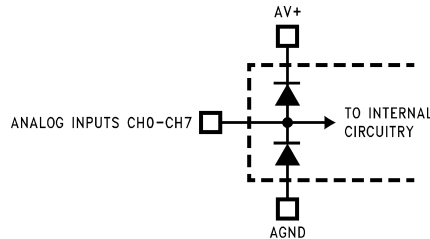

Figure 6.
- Two on-chip diodes are tied to each analog input as shown below. They will forward-conduct for analog input voltages one diode drop below ground or one diode drop greater than  $V^+$  supply. Be careful during testing at low  $V^+$  levels (+4.5V), as high level analog inputs (+5V) can cause an input diode to conduct, especially at elevated temperatures, which will cause errors in the conversion result. The specification allows 50 mV forward bias of either diode; this means that as long as the analog  $V_{IN}$  does not exceed the supply voltage by more than 50 mV, the output code will be correct. Exceeding this range on an unselected channel will corrupt the reading of a selected channel. If  $AV^+$  and  $DV^+$  are minimum ( $4.5 V_{DC}$ ) and full scale must be  $\leq 4.55 V_{DC}$ . See Figure 6